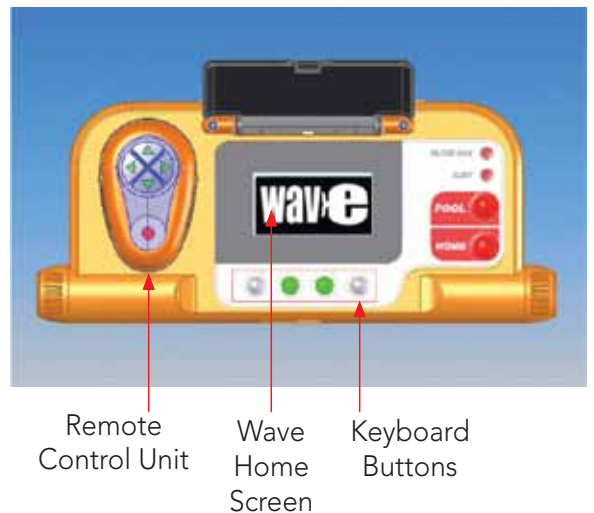

Figure 2: The Dolphin Wave robot MMI console
- In this user manual, the instruction press **"Start"** is performed by pressing both green buttons -  - simultaneously on the MMI console (Figure 2).